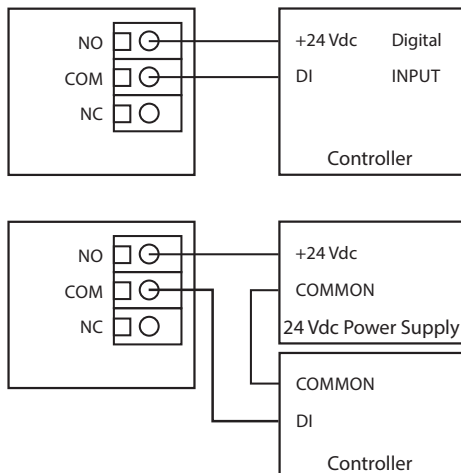

Figure 10
- The setpoint differential has 3 jumper selectable settings (Low/Mid/High). Set jumper to desired differential as shown in Figure 10.